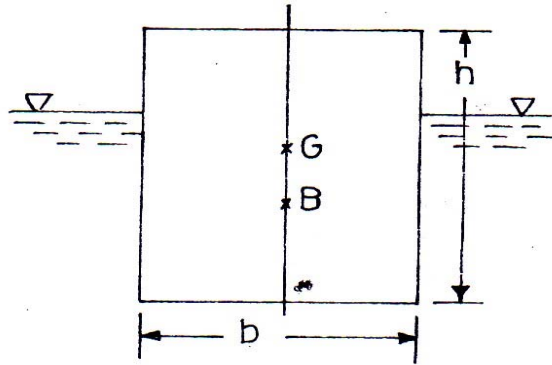

Figure Q2[b]
- [b] Determine the range of b/h for the stable equilibrium of a floating body of specific density s , where b is the width and h is the height of the body as shown in Figure Q2[b].**